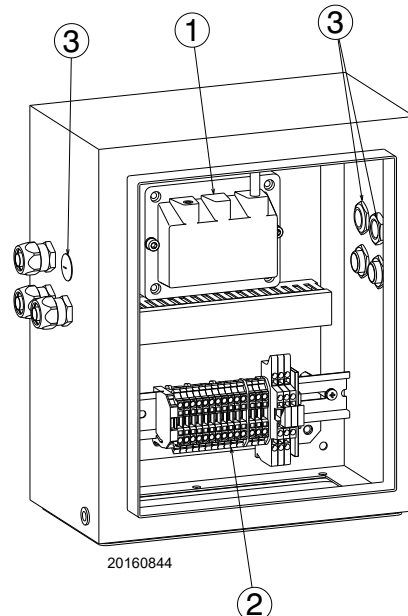

Fig. 17
All the cables to be connected to the burner are passed through cable grommets, making holes on the electric box or else using the holes that have a plug, as shown in Fig. 17.
- Key (Fig. 17)